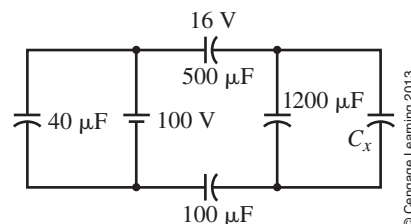

FIGURE 10-41
41. For Figure 10-41, determine C_x .